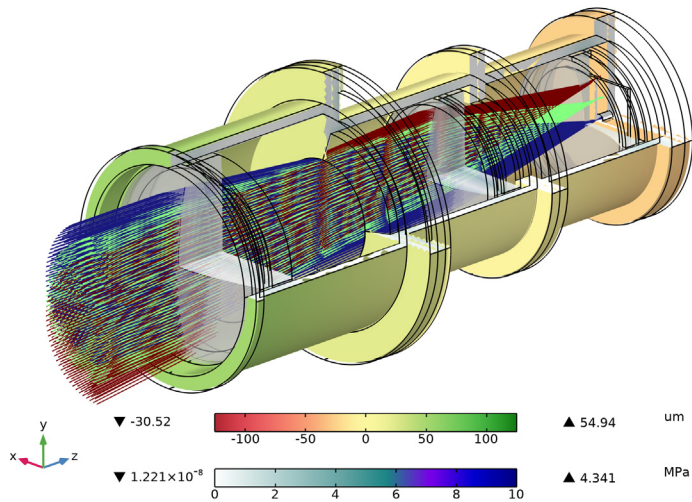

Figure 7: In this ray trace, the displacement field is shown together with the von Mises stress for a temperature $T = 0^{\circ}\text{C}$.
- 6 In the **Displacement** toolbar, click  **Plot**. Compare to Figure 7.